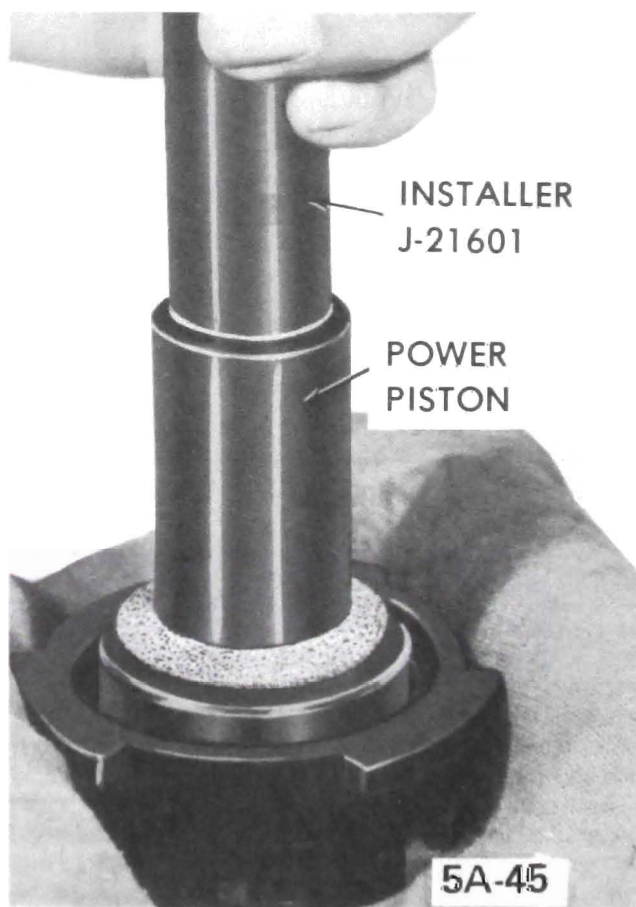

Figure 5A-45 Installing Floating Control Valve Assembly
15. Holding support plate by metal, with locking tangs down, place support plate and diaphragm assembly over tube of power piston. The flange of diaphragm will fit into groove on power piston. See Figure 5A-46.